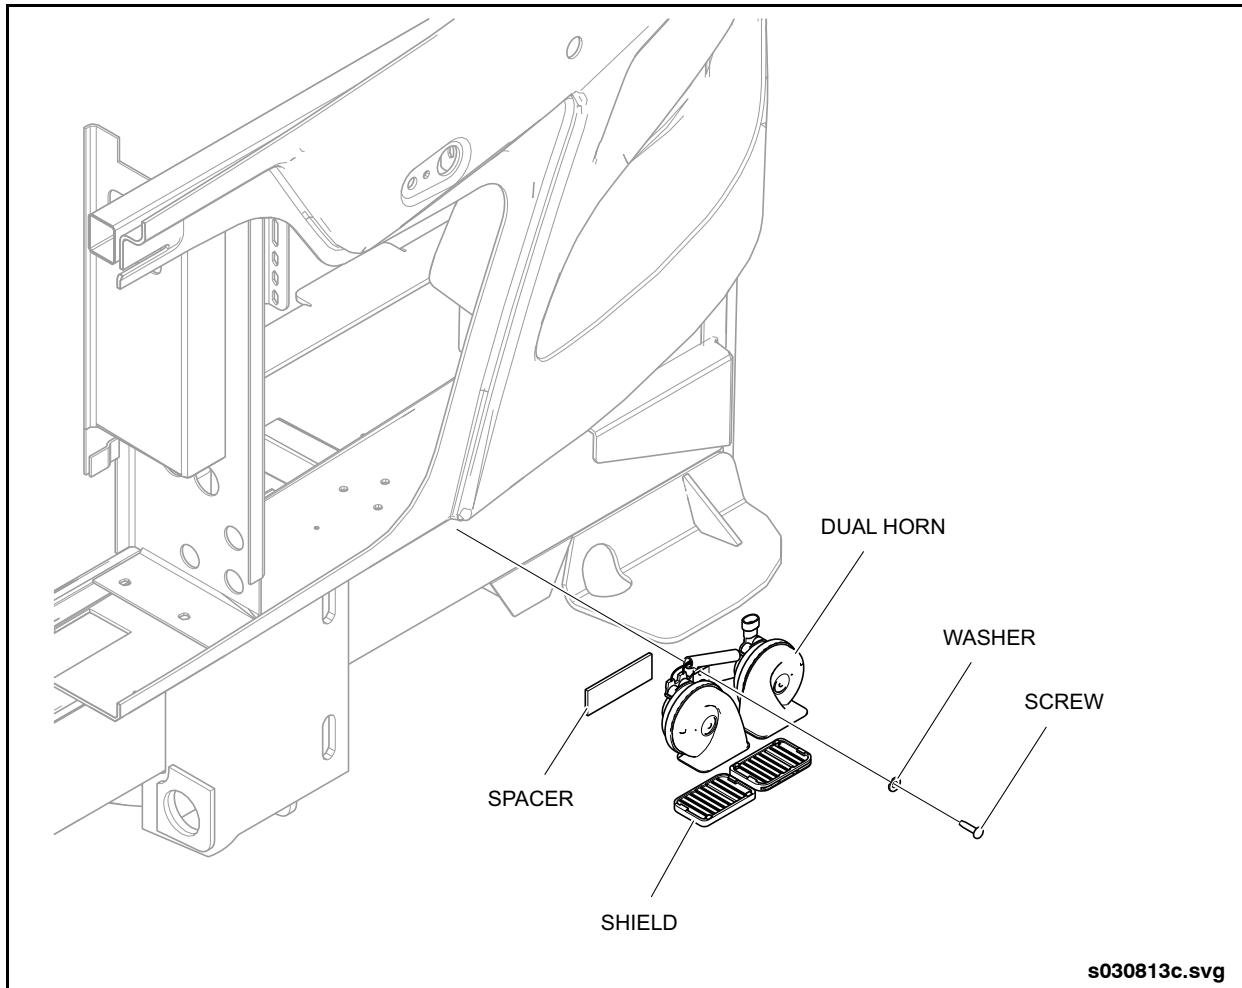

Fig. 9-23: Horns Installation
- Two electric horns are mounted on the front bulkhead plate. Each horn is carefully adjusted and inspected during manufacture and should operate indefinitely without attention. If a horn does become inoperative, it must be replaced. See "Fig. 9-23: Horns Installation" on page 45.